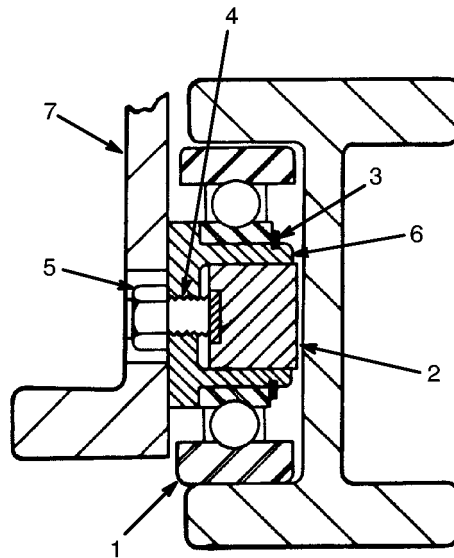

Figure 8-9 -Removing Load Roller
7. Use a prybar to remove the load roller from the stub shaft for the load roller. See Figure 8-9.
SIDE ROLLERS-DISASSEMBLY AND ASSEMBLY (SEE FIGURE 8-9)